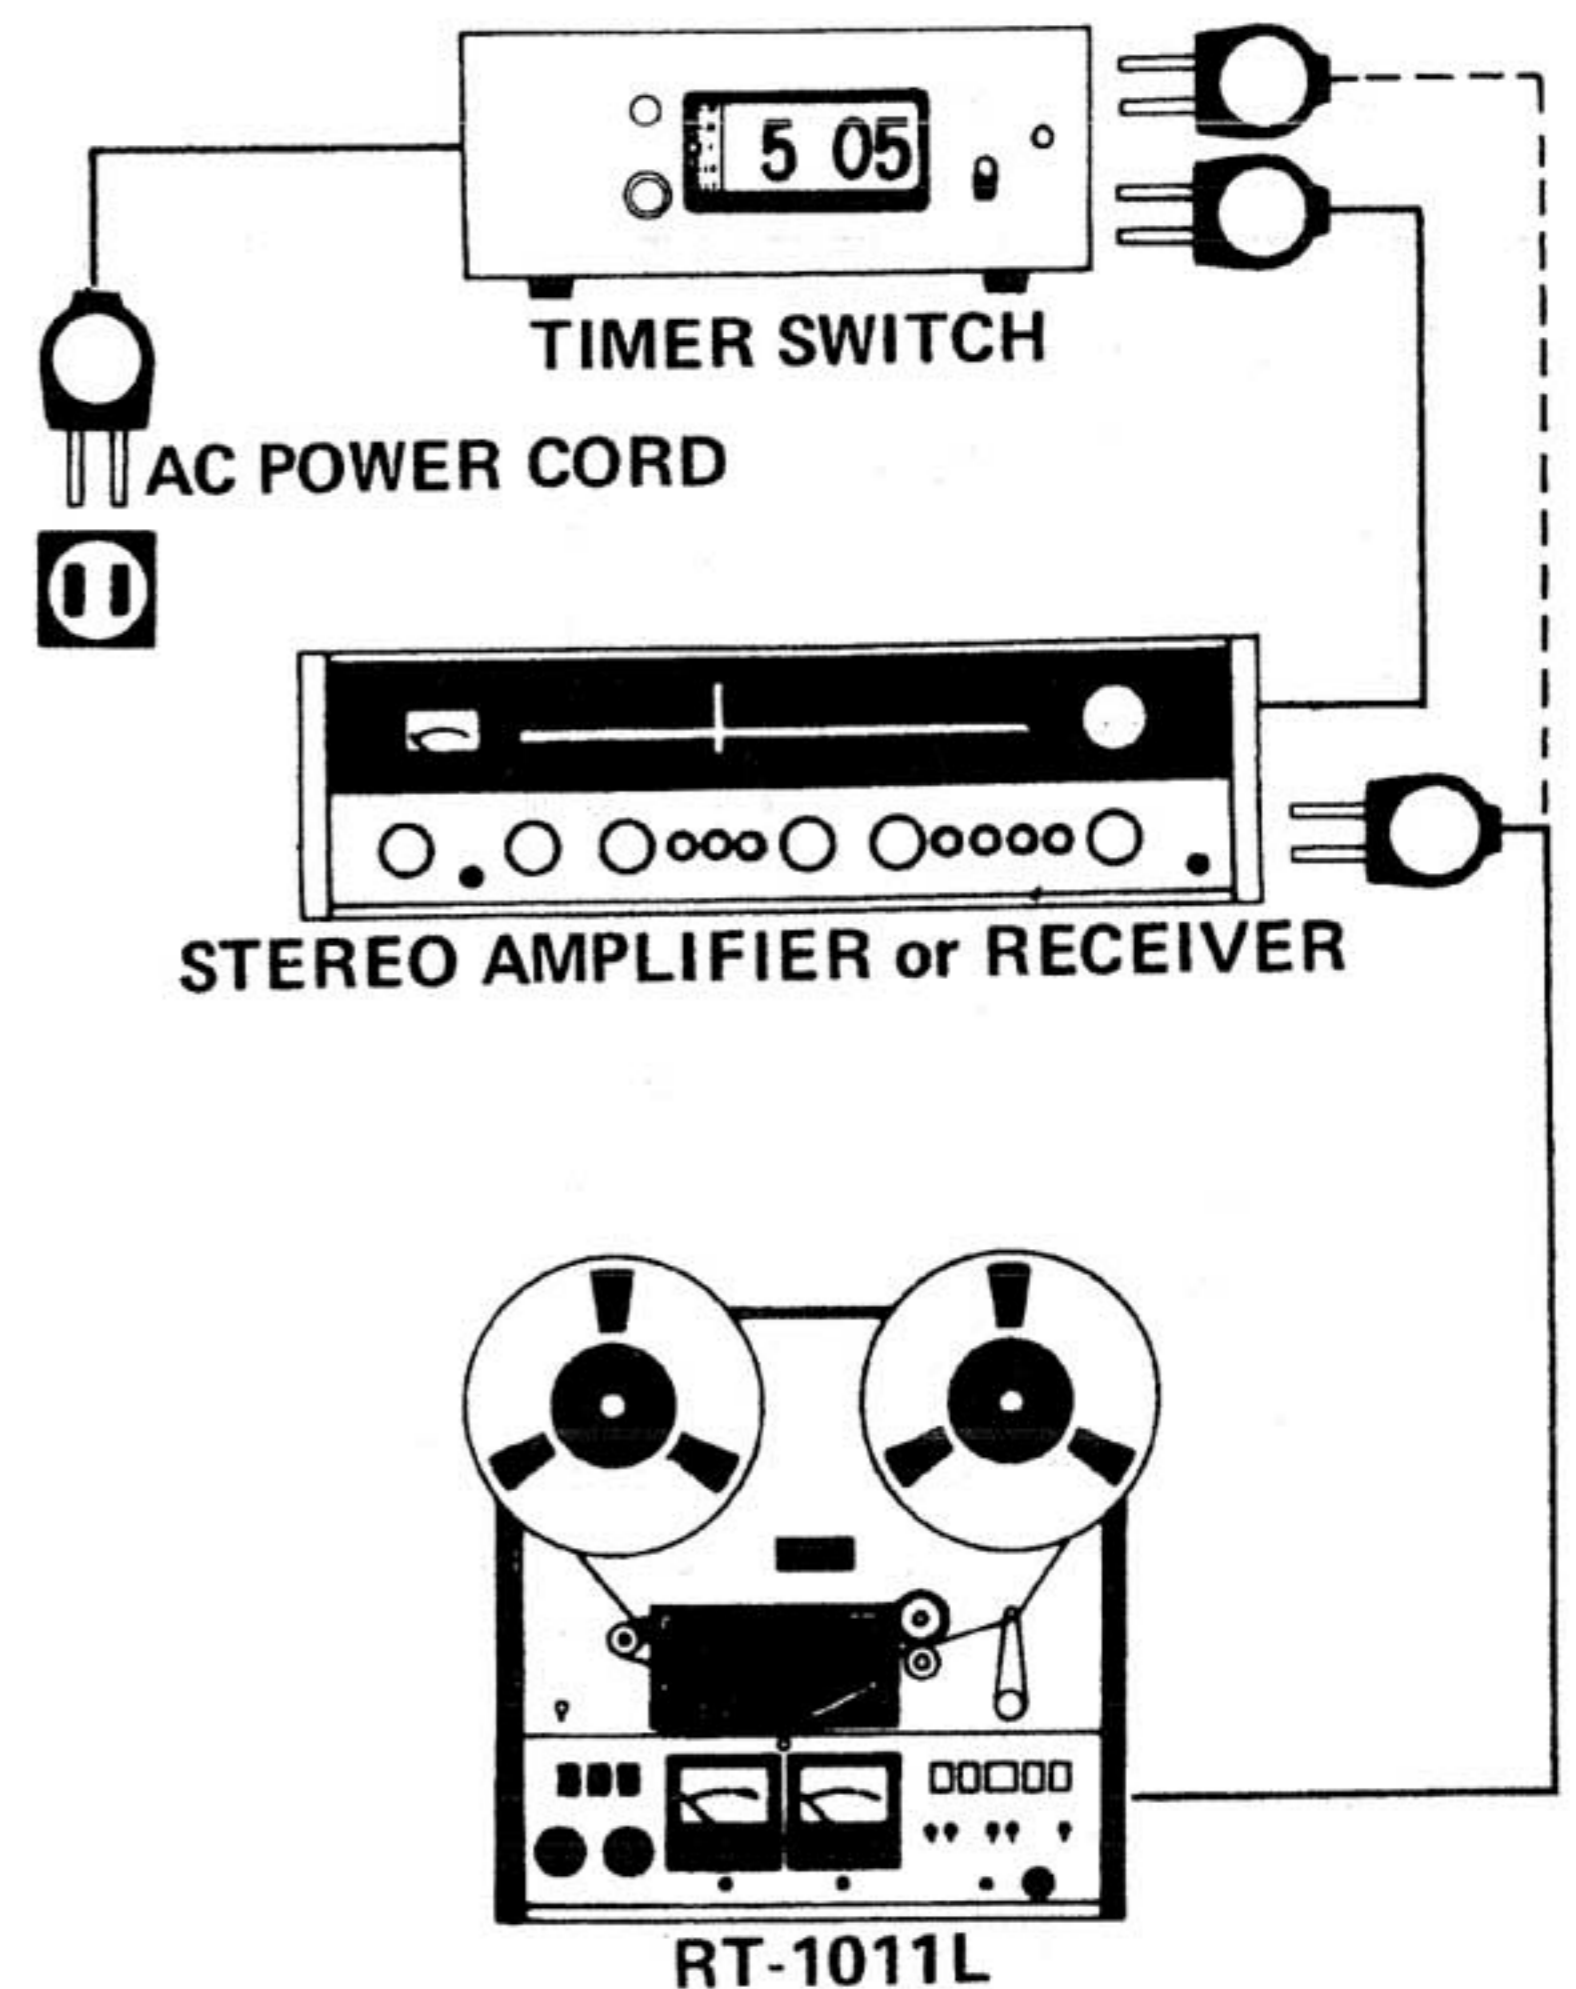

Fig. 45
1. Connect AC power cords of RT-1011L, amplifier and receiver, tuner, etc. to timer switch (Fig. 45).